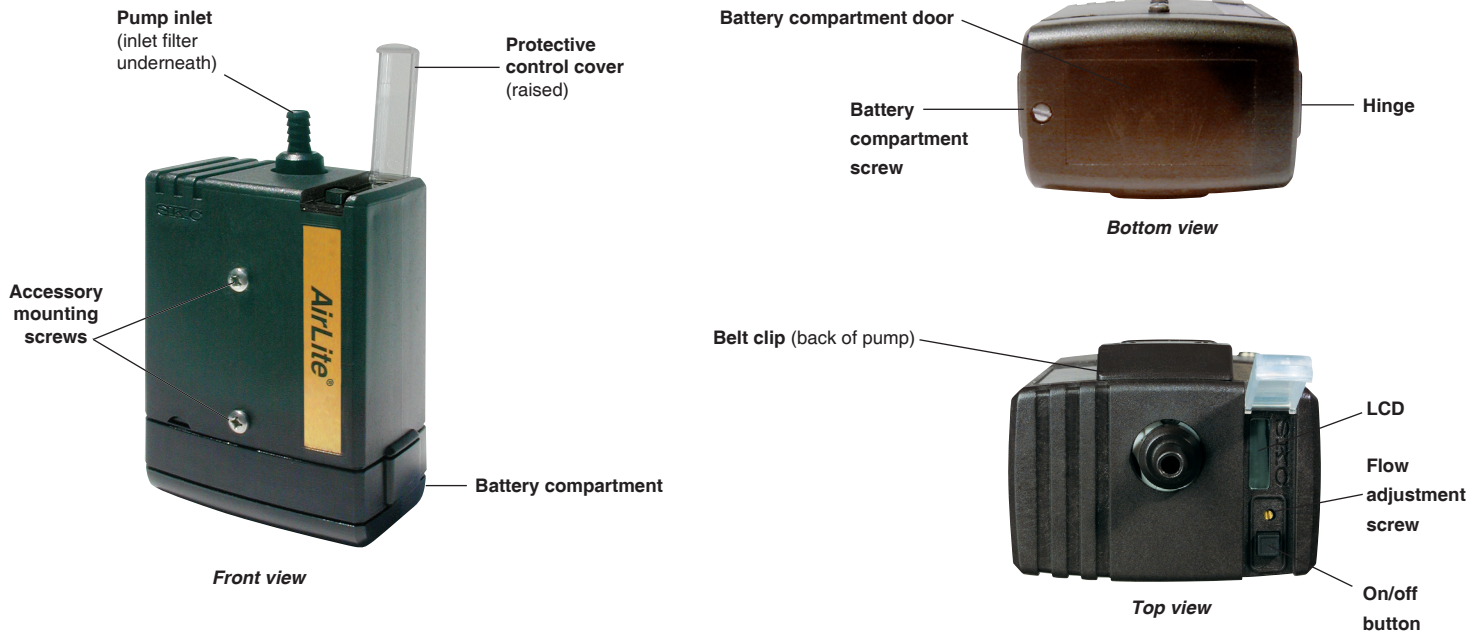

Figure 1. AirLite Sample Pump with Timer
The AirLite Sample Pump with Timer (Figure 1) provides 5 to 3000 ml/min flows and is suitable for abatement, indoor air sampling, and emergency response in non-hazardous locations.
The AirLite with Timer is powered by three standard AA alkaline batteries located in a compartment on the bottom of the pump (Figure 1). To insert new or replace existing batteries:
1. Use a slotted screwdriver to loosen the screw on the bottom of the case (Figure 1).
4. With the new batteries in place, insert the hinge (Figure 1) on the compartment door under the lip of the case, close the door, and tighten the screw until secure.
1. Turn on the pump using the on/off button (*Figure 1*) and run for 5 minutes before calibrating. Leave the pump running.
4. Using a small screwdriver, set the pump flow rate by turning the flow adjustment screw (*Figure 1*) **clockwise** to increase the flow or **counterclockwise** to decrease the flow until the calibrator indicates the method-specified flow rate. Take a minimum of three readings and record the average flow rate, as per OSHA/NIOSH instructions.
1. Turn on the pump using the on/off button (Figure 1) and run for 5 minutes before calibrating. Leave the pump running.
3. Set the pump flow rate to 1.5 L/min. Using a small screwdriver, turn the flow adjustment screw on top of the pump (Figure 1), **clockwise** to increase flow or **counterclockwise** to decrease flow, until the calibrator indicates 1.5 L/min.